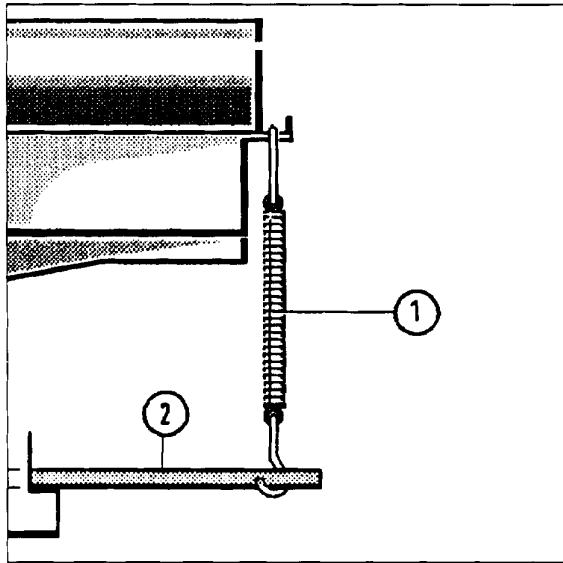

Fig. 1
- Insert the rod (2/ Fig. 1 from the service kit) into the compression plate holder.
- Attach the spring scale as shown in 1/ Fig. 1 between the tube mounting and the rod (2/ Fig. 1) of the compression plate holder.
- Select the maximum value (15/20 kp) (2/ Fig. 1) on the potentiometer.